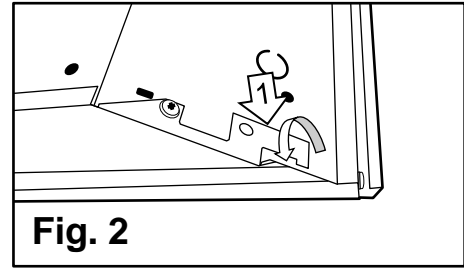

Fig. 2
4. From above the ceiling, secure the Troffer to T-Bar by bending built in **hooks** (#1) on all four corners of the fixture (**Fig. 2**).
5. If local code requires, tie a wire to at least two of the four **hooks** (#1) located near each corner of the Troffer to a structural member of the ceiling (**Fig. 2**).
6. Remove the **access plate** (#2) located on the back of fixture. Locate the black and white **fixture supply wires** (**Fig. 2**).